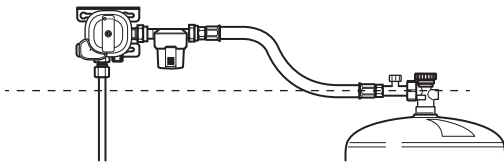

Fig. 7
- ▶ During a cylinder change, ensure that the high-pressure hose from the inlet connection of the gas pressure regulator is always at a constant gradient to the gas cylinder (Fig. 7).